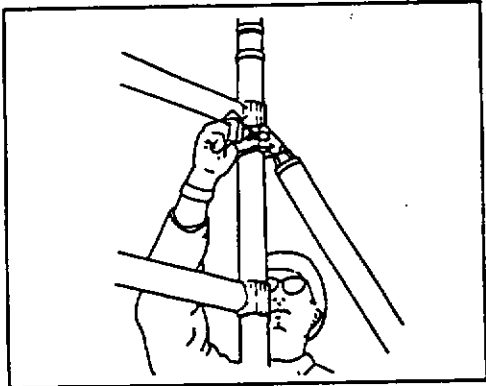

Fig.22
- b. Fit Stabilisers as in Plan 'A' (f) at about 45° from each corner post, by first of all connecting the main spar tube-coupling of the Stabiliser near to the underside of the fifth rung of the End Frame. Lightly tighten up the wing nut. (Figure 22)